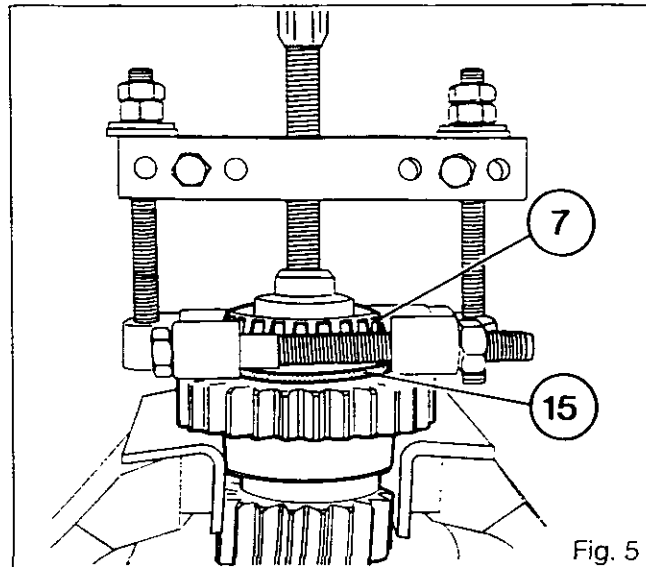

Fig. 5
28. Extract the bearing cone (7) and the deflector (15) (Fig. 5), then remove the bearing cone (4).
- Note:** *To extract the cup (3) it is necessary to remove the 540/1000 rpm pinions. Partly drain the rear axle housing. Carry out operations 29, 8 to 11 and 31, chapter 6E01.*